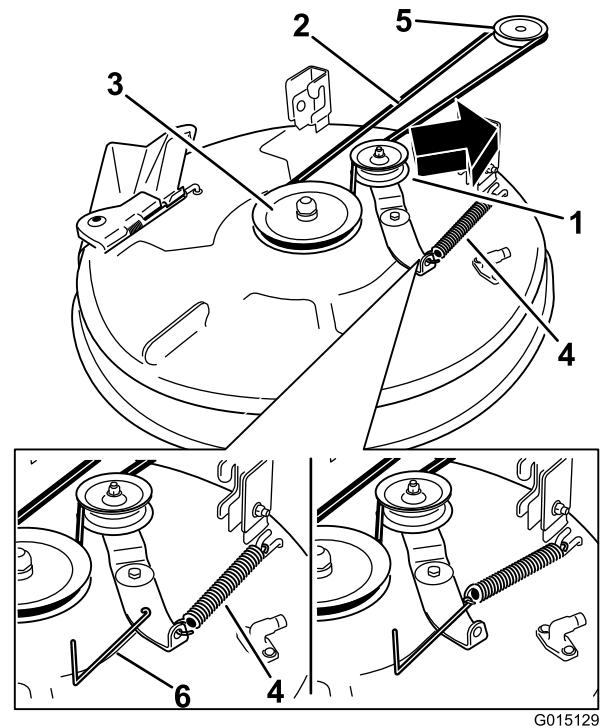

Figure 59
4. Using a spring-removal tool (Toro part no. 92-5771), remove the idler spring from the deck hook to remove tension on the idler pulley, and roll the belt off of the pulleys (Figure 59).
5. Route the new belt around the engine pulley and mower pulleys (Figure 59).
6. Using a spring removal tool (Toro part no. 92-5771), install the idler spring over the deck hook and placing tension on the idler pulley and the mower belt (Figure 59).